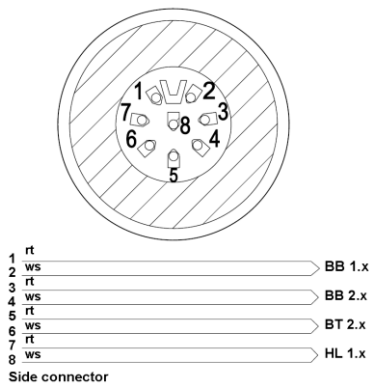

Fig. 2: Connection of light bulb (HL 1.x) to 8 pin cable plug.
- Open the 8 pin cable plug and replace the light bulb (HL 1.x) with a new one (connect cable plug → Fig. 2).